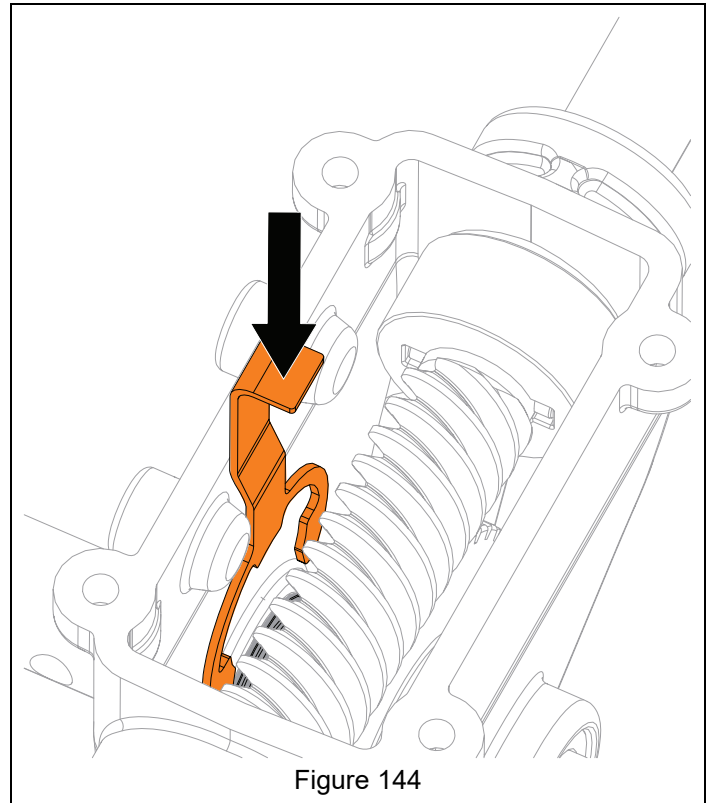

Figure 144
20. Reinstall bushing retainer into flange bushing groove. See Figure 144.